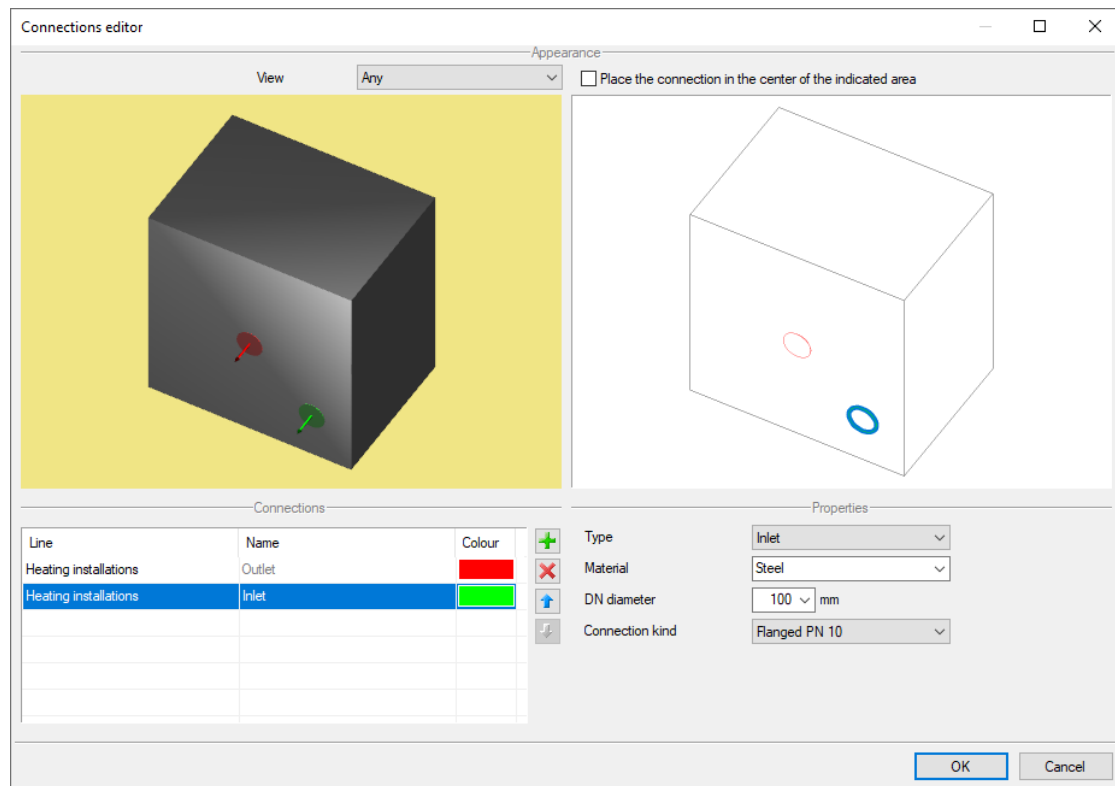

Fig. 31 Defining the location of connectors in the *Connections editor* window
3. Next, move the cursor over the location of the new connector (it will be highlighted in blue) and click (Fig. 31). If the *Place the connection in the center of the indicated area* option is checked at the top of the window, the connector will be defined in the center. Otherwise, the center of the connector will be at the point indicated by the cursor. The defined location can be freely changed by indicating successive points on the marked areas.